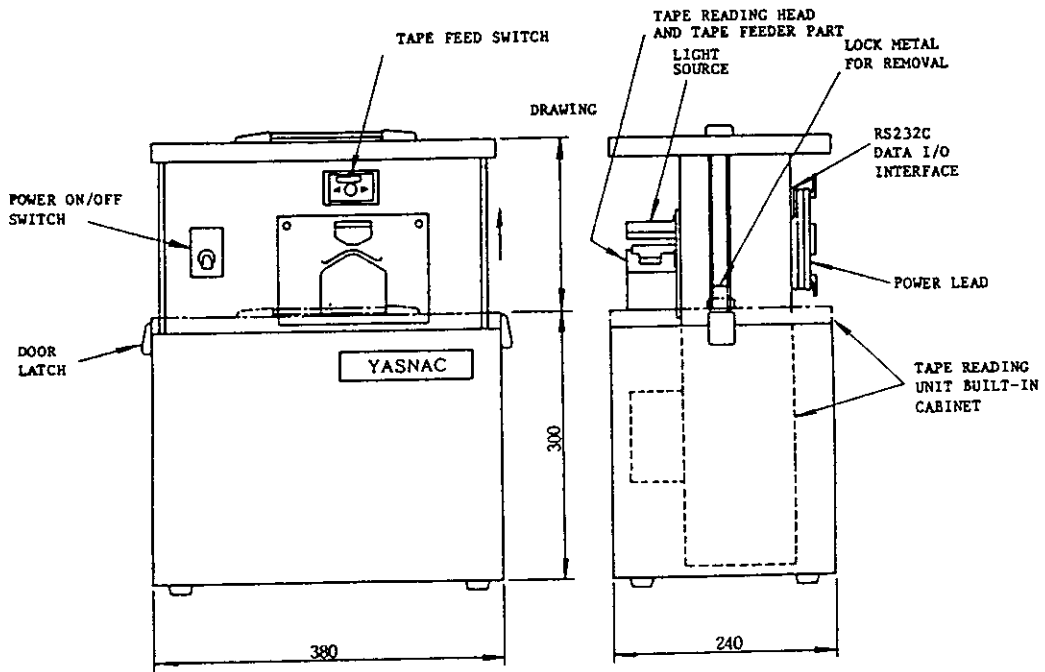

Fig. 5.10. Dimensions of Portable Tape Reader
Dimensions	Refer to Fig. 5.10
(1) Make the following preparatory work with tape reader.
- a. Unlatch the two draw latches, and pull up the top lid by the handle until the lock clicks. The top lid is locked in the position permitting tape reader manipulation. See Fig. 5.10.